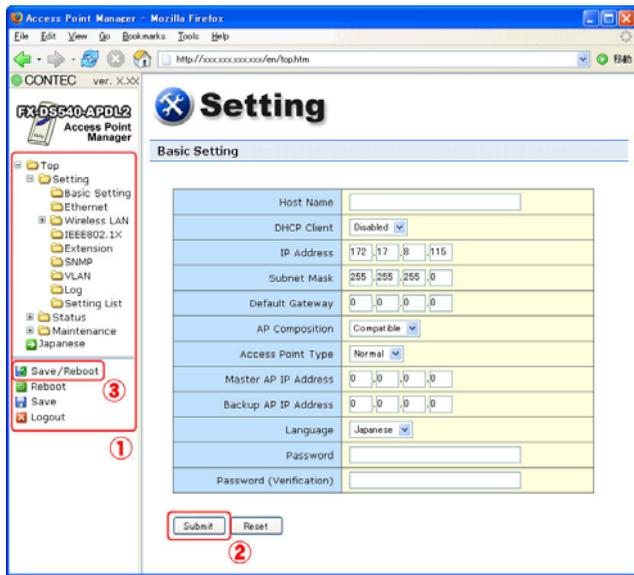

Figure 3.3. Setting by Access Point Manager
Select “Setting” in the left-hand menu ((1) in Figure 3.3) and further select the desired setting items from the opened menu. Information such as setting items will be displayed in the right-hand frame.
Make sure to click “Submit” ((2) in Figure 3.3) after changing settings on each page to temporarily save the settings in this product.
The settings become valid when the product is restarted after all the setup procedure is completed and the settings are stored. Click “Save/Reboot” ((3) in Figure 3.3) on the left-hand menu.